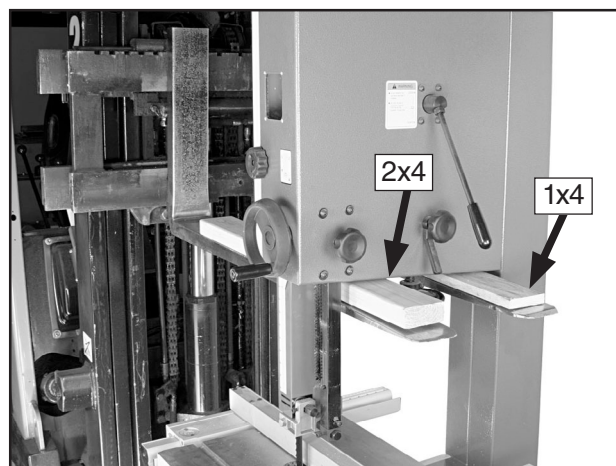

Figure 11. Example of lifting bandsaw with forklift using wood shims.
1. Carefully place the forklift forks under the head and install a 1x4 shim between the head and the left fork and a 2x4 shim between the head and right fork so the bandsaw is level, as shown in **Figure 11**.